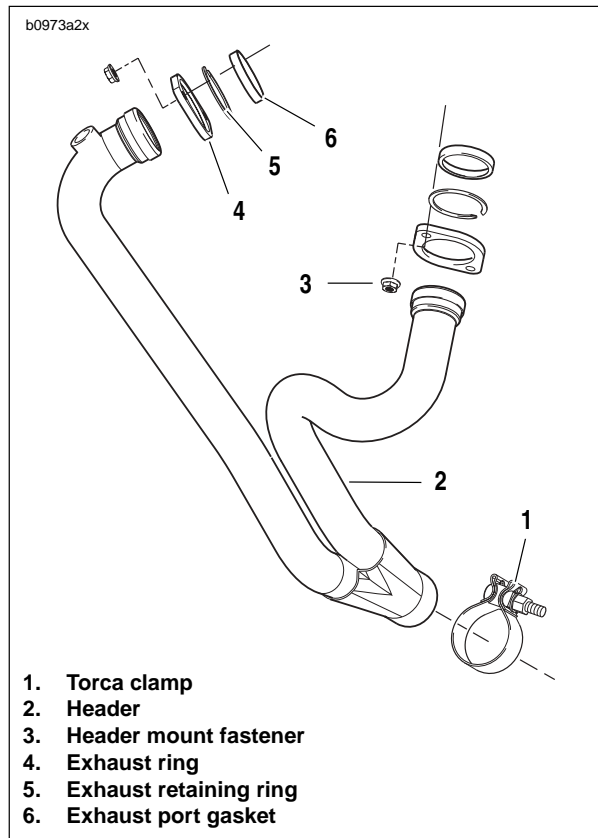

Figure 2-115. Exhaust Header
6. See Figure 2-115. Loosen Torca clamp (1).
3. See Figure 2-115. Remove exhaust header (2) by removing mounting fasteners (3).
4. Remove exhaust ring (4), retaining ring (5) and port gasket (6).
- See Figure 2-115. Install exhaust ring (4), retaining ring (5) and **new** port gasket (6).
- Install exhaust header (2). Tighten mounting fasteners (3) to 72-96 **in-lbs** (8-11 Nm).
5. See Figure 2-115. Tighten the Torca clamp (1) to 28-30 ft-lbs (38-40.6 Nm).